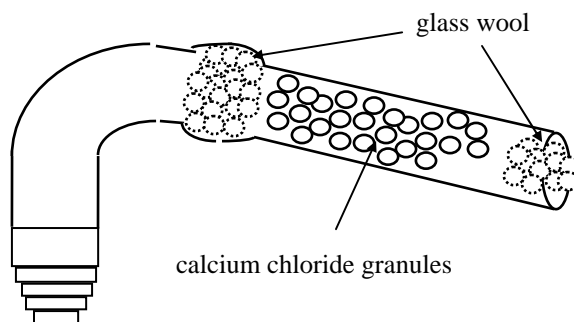

Figure 16.5. A calcium chloride (granular) drying tube
2. Place 2.4 g of magnesium turnings in the clean, dry, 200-mL round-bottom flask. (Make sure that the magnesium turnings used are those supplied specifically for use in Grignard reactions.) Attach the condenser to the flask (do not forget the grease!) and then attach a (granular calcium chloride) drying tube (see Figure 16.5) to the top of the condenser.